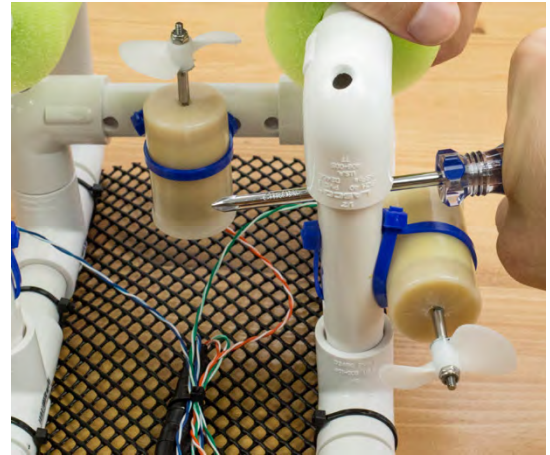

Figure 11
- To adjust the thrusters' position in the horizontal plane, insert a screwdriver to gently turn the PVC pipes to orient the thrusters in the desired direction. (Figure 11)